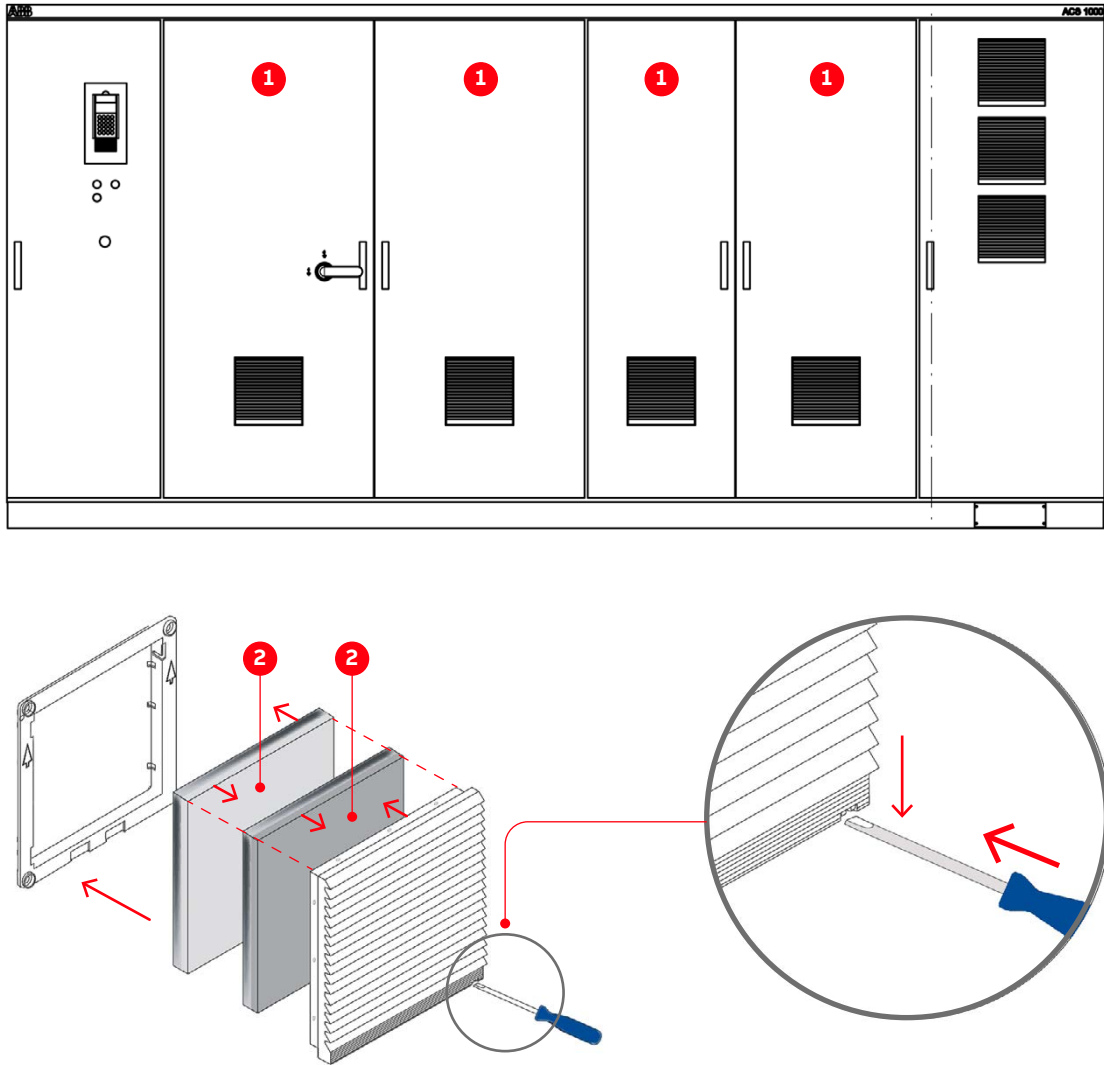

Figure 11-5: Cleaning and replacing filter mats
- Make sure that long thin items (eg, wires, screwdrivers), do not pass through the perforated plate of the air intake of a medium voltage compartment (1, 2, 3 and 4 in Fig. 11-5). These objects can cause fatal short-circuits.